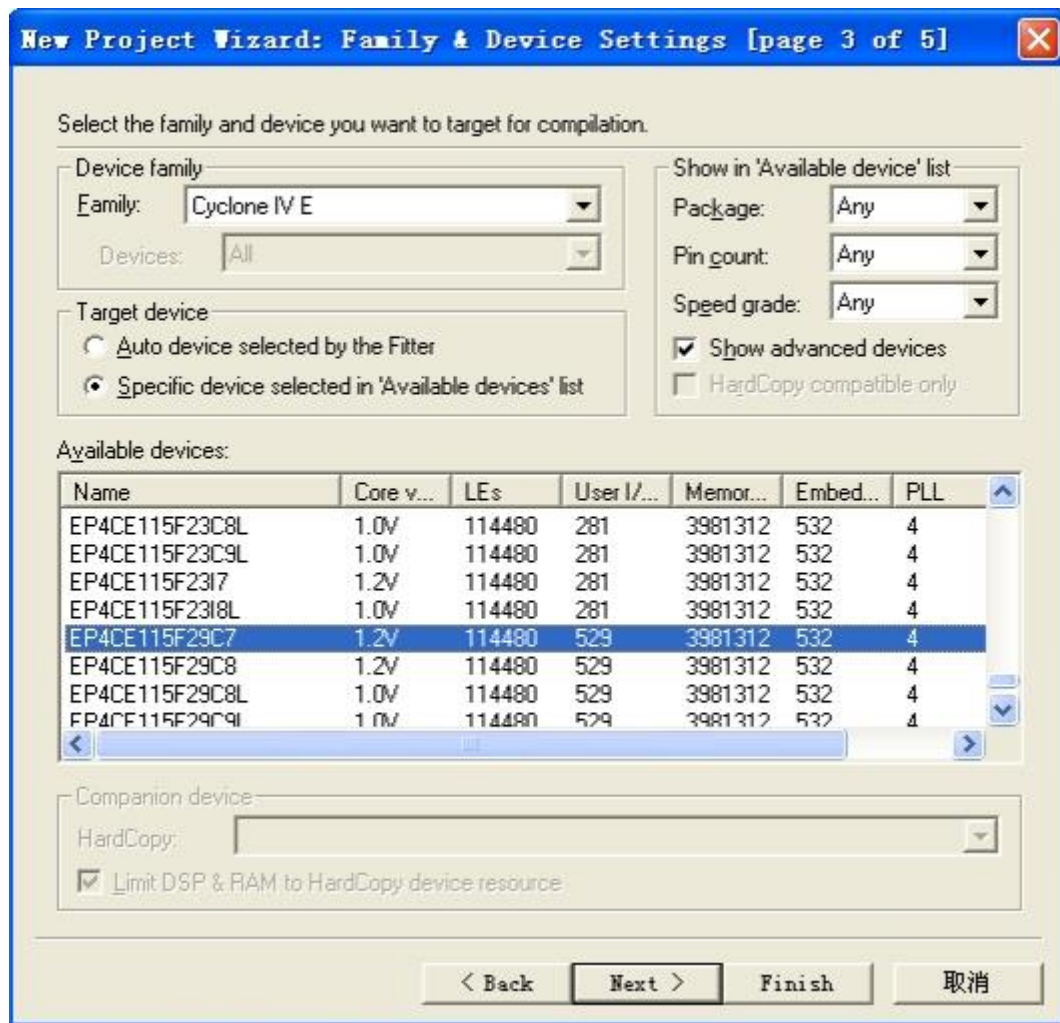

Figure 2-3 Specify the Device Example
- g. You will assign a specific FPGA device to the design and make pin assignments. See Figure 2-3.